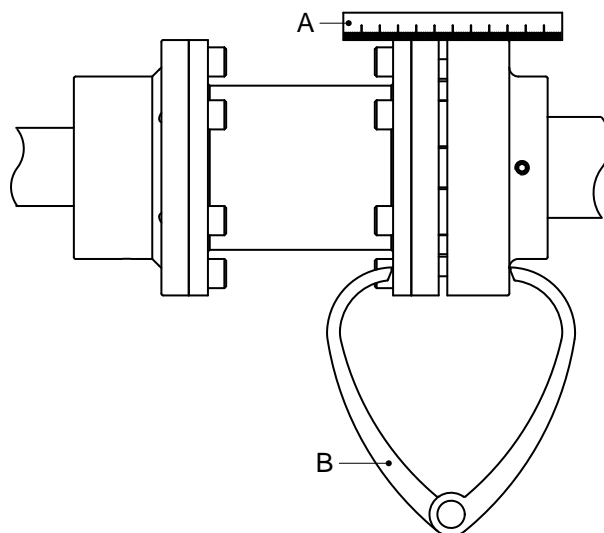

Figure 2: Aligning the coupling by means of a ruler and a pair of outside callipers.
- 7 Push the upper coupling half downward. For the correct distance between the coupling halves, see figure 2 with the corresponding table. Then secure the coupling half on the motor shaft.
- 2 Place a ruler (A) on the coupling. The ruler should touch both coupling halves over the entire length, see figure 2
- 4 Check the alignment once again using a pair of external callipers (B) at 2 diametrical opposite points on the sides of the coupling halves, see figure 2.